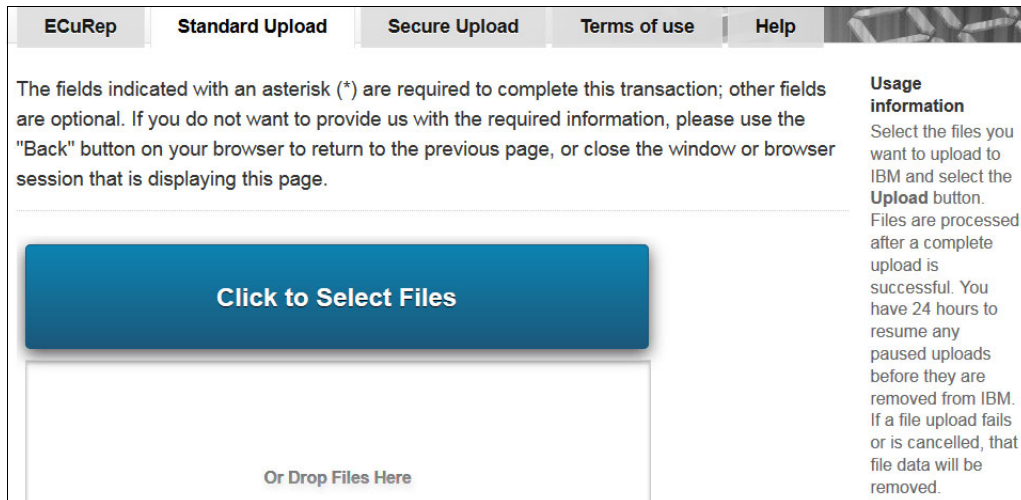

Figure 7-8 File selection panel
4. The file selection panel opens, and you can select the files to upload (Figure 7-8).